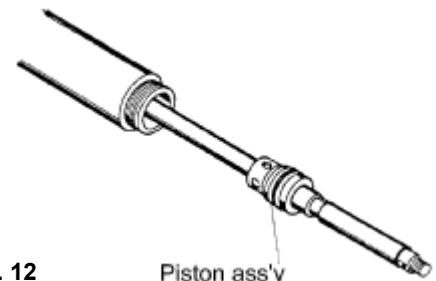

Fig. 12
- 3) Pull out the plunger rod from the suction tube by holding it. The piston and connecting rod Ass'y can be pulled out. (Fig. 12)